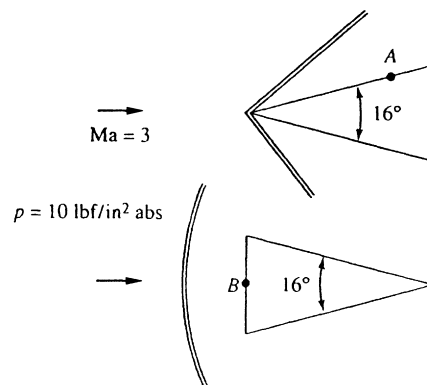

Fig. P9.132
**9.132** Air flows at  $Ma = 3$  and  $p = 10$  psia toward a wedge of  $16^\circ$  angle at zero incidence, as in Fig. P9.132. (a) If the pointed edge is forward, what is the pressure at point A? If the blunt edge is forward, what is the pressure at point B?